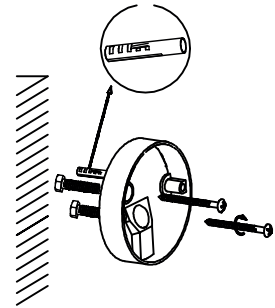

FIGURE 2b
- (2) Using the backplate as a guide mark and drill holes ensuring the UP arrow remains UP. (FIGURE 2b)
- (3) Drill two holes in the wall suitable for the wall fixings supplied.
- (4) Use a screwdriver to break a small hole on the cable gland and route the power cord through the gland and gland hole
- (5) Follow WIRING INSTRUCTION guide then fix the lamp to the back plate ensuring the light is secure.